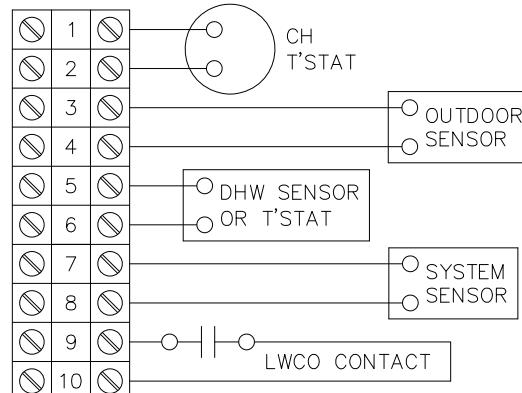

Figure 10.2: CH Thermostat Terminals
7. Place a jumper in terminals #1 & #2, shown in Figure 10.2 below, to simulate a heating call.